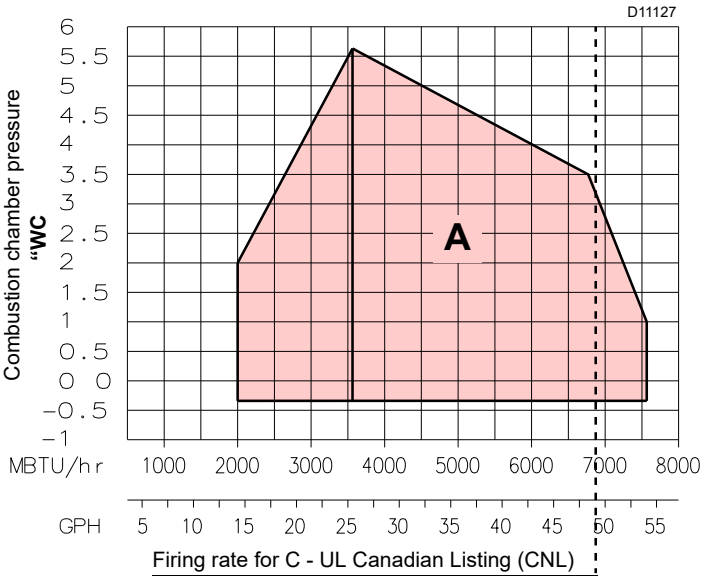

Fig. 3
**MAXIMUM OUTPUT** must be selected in area A (Fig. 3).